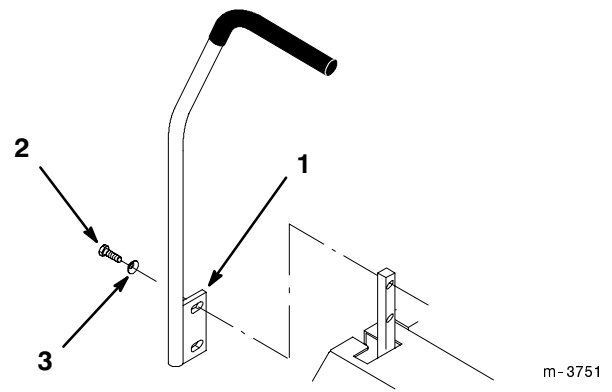

Figure 4
1. Remove the 4 bolts (3/8 x 1 in.) and 4 spring washers (3/8 in.) which attach the motion control levers to the control arm shafts for shipping (Fig. 4).
2. Place the levers (with the mounting plate towards the rear) on the outside of the control arm shaft and secure with 4 bolts (3/8 x 1 in.) and 4 spring washers (3/8 in.) (Fig. 4).
4. Align the front/rear position of the levers, with each other, in the neutral position. Loosen hardware and adjust by sliding/tilting the lever(s) forward or backward until properly aligned (Fig. 4).